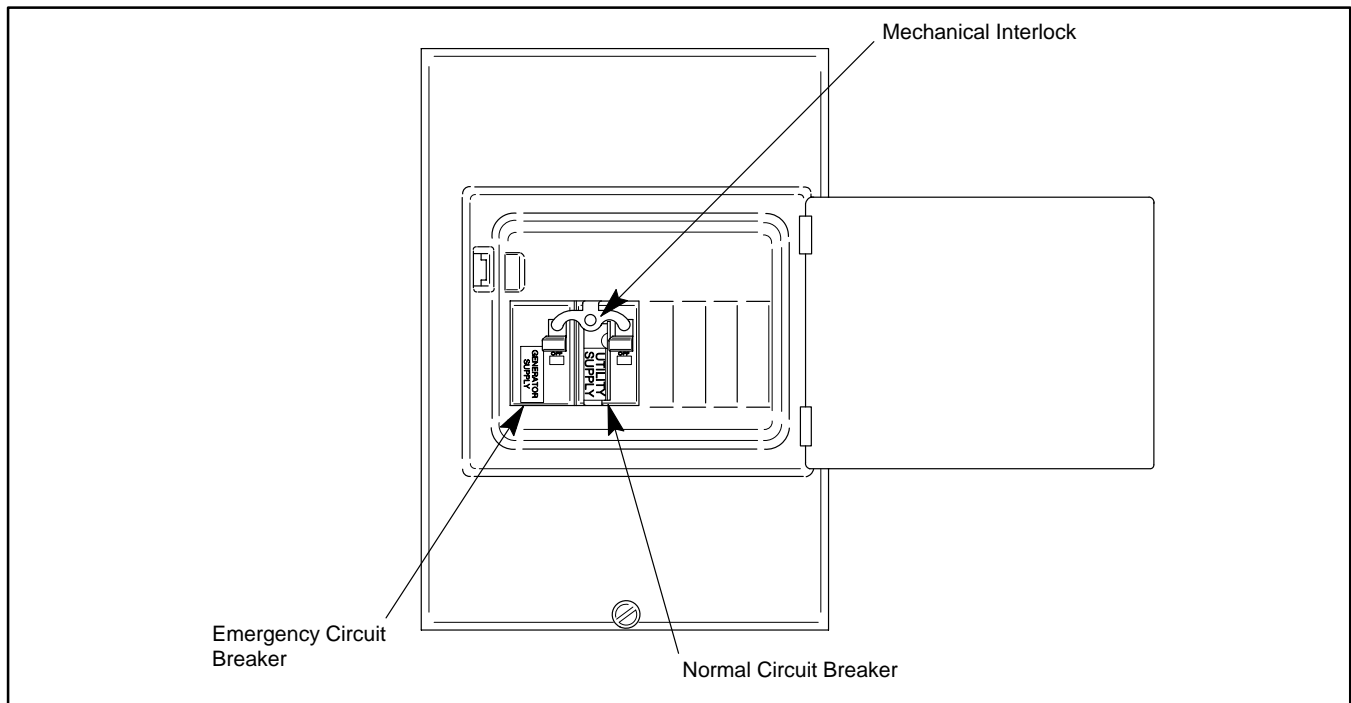

Figure 2-1. Circuit Breakers and Mechanical Interlock
2. Push normal circuit breaker to OFF position. See Figure 2-1.